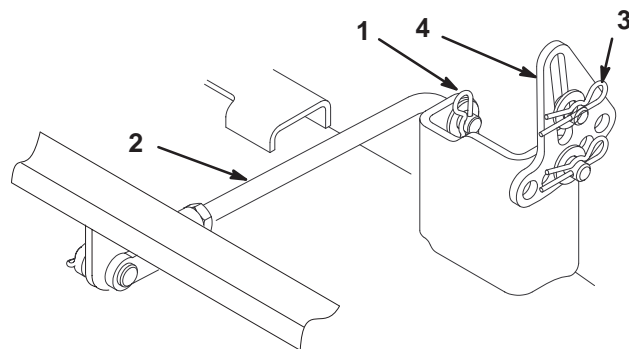

Figure 45
4. Remove the hairpin cotter and washer from the rear trunion rod (Fig. 45) on each side of the mower.
5. Remove the hairpin cotter and washer at the mower leveling brackets (Fig. 45) on each side of the mower. Note which hole the leveling bracket is mounted in for future installation. Slide the brackets off of the mounting pin.
4. Attach the rear trunion rod to the tractor with the washer and hairpin cotter (Fig. 45) on each side of the mower.
5. Slide the leveling brackets onto the mounting pins and secure them with the washers and hairpin cotters (Fig. 45).